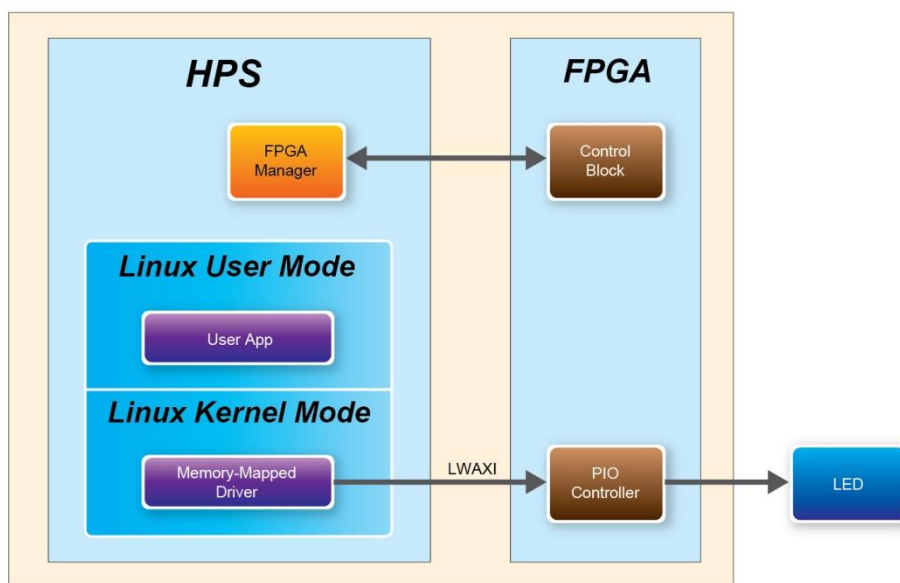

Figure 6-1 FPGA LED are controlled by HPS
**Figure 6-1** shows the block diagram of this demonstration. The HPS uses Lightweight HPS-to-FPGA AXI Bridge to communicate with FPGA. The hardware in FPGA part is built into Qsys. The data transferred through Lightweight HPS-to-FPGA Bridge is converted into Avalon-MM master interface. The PIO Controller works as Avalon-MM slave in the system. They control the associated pins to change the state of LED. This is similar to a system using Nios II processor to control LED.